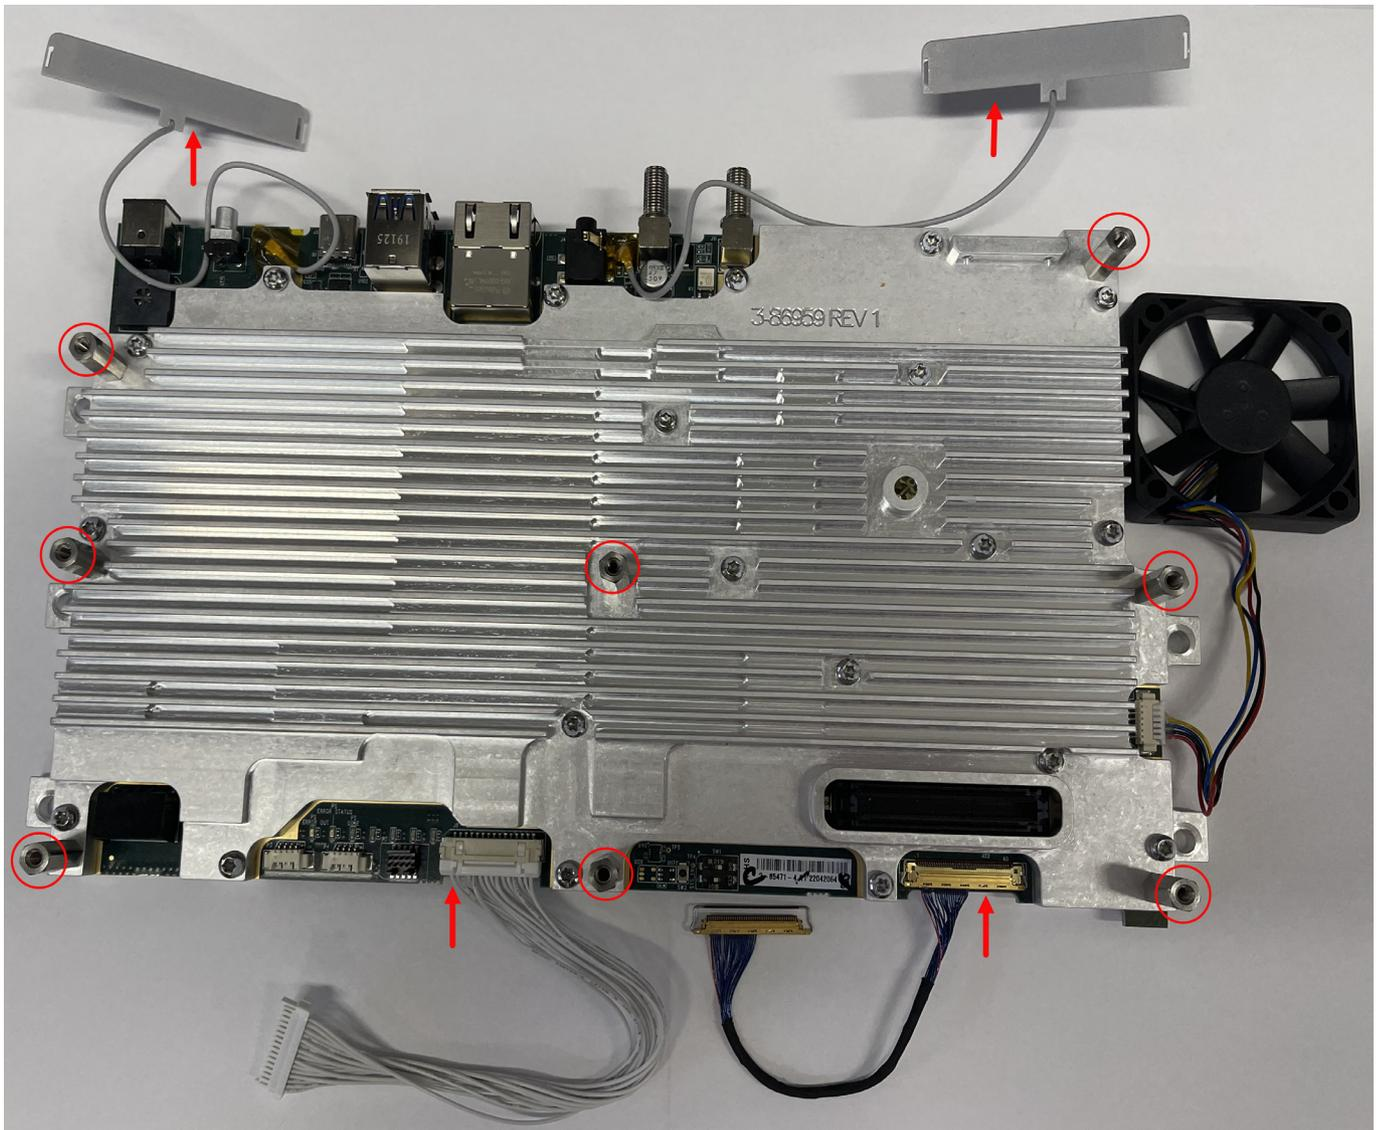

Figure 4-17. Main PCB Removal
2. Remove the eight stand-offs using 6 mm hex socket driver to remove the Main PCB. See Figure 4-17.